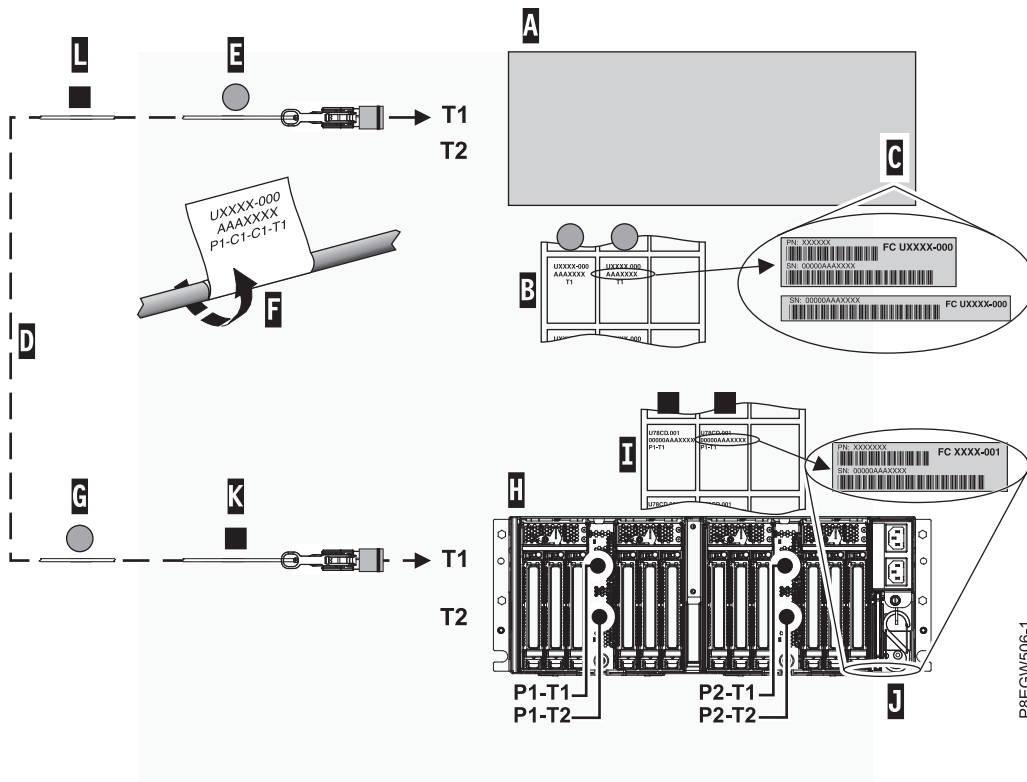

Figure 15. Labeling an expansion drawer cable
Note: While you are completing these steps, refer to Figure 15 on page 18 as a reference.
- g. Attach the leftmost Cx-T1 label to the connector end of the cable **(E)**. See Figure 15 on page 18. Wrap the label with the blank end first so that the location information **(F)** is visible.
- h. Take the second label Cx-T1 from the host system label sheet **(B)** and place it on the opposite end of the cable that attaches to the EMX0 PCIe3 expansion drawer. Ensure that the label is placed more than 100 mm (4 in) from the end of the cable **(G)**. See Figure 15 on page 18.
Note: While you are completing these steps, refer to Figure 15 as a reference.
- a. Locate the EMX0 PCIe3 expansion drawer (H) that you are connecting to the host system.
- b. Locate the EMX0 PCIe3 expansion drawer serial number label sheet (I).
- c. Match the EMX0 PCIe3 expansion drawer serial number (J) to the serial number shown on the EMX0 PCIe3 expansion drawer label sheet (I).
- f. Attach the leftmost Px-T1 label to the connector end of the cable (K). See Figure 15. Wrap the label with the blank end first so that the location information (F) is visible.
- g. Take the second Px-T1 label from the expansion drawer label sheet and place it on the opposite end of the cable greater than 100 mm (4 in) from the end of the cable (L). See Figure 15.